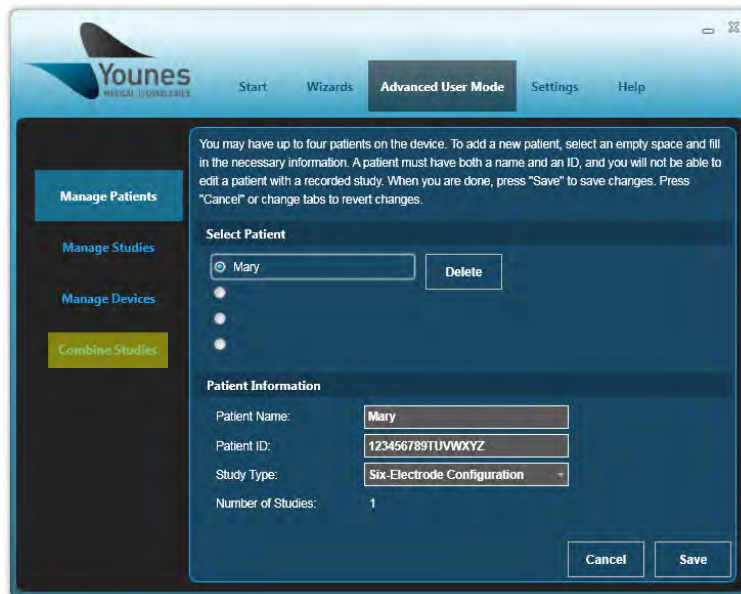

Figure 95 – Windows PC Prodigy Application Screen with “Combine Studies” Button Highlighted (Manage Patients)
2. Select the “Combine Studies” button highlighted in Figure 95.